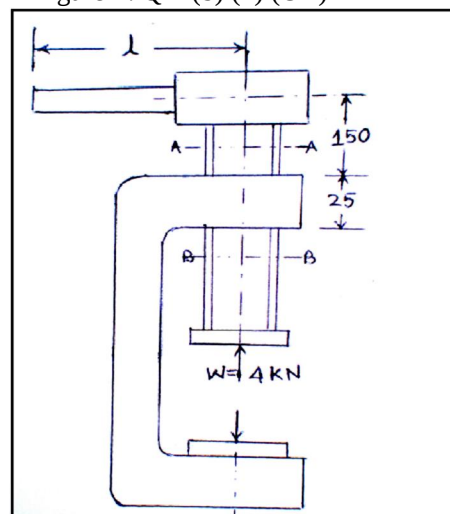

figure-4. Q-5 (a) (OR)
**Q.5 (a)** The following data refers to a C-clamp shown in figure-4